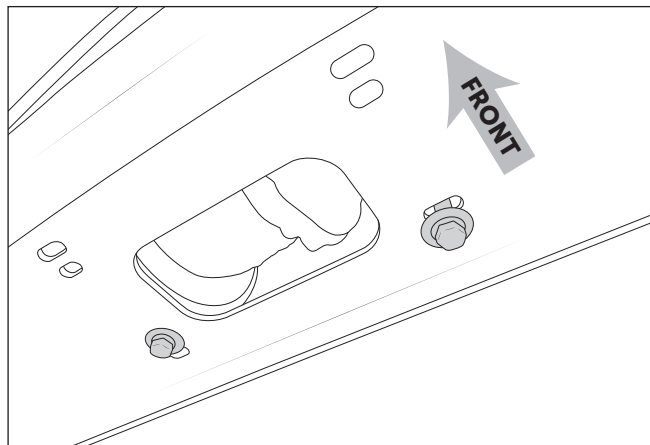

Figure 2
2. If installing after a winch is installed, remove the two underside bolts, being careful to keep track of the spacer that is located between the bumper and the winch (fig. 2). Save hardware.